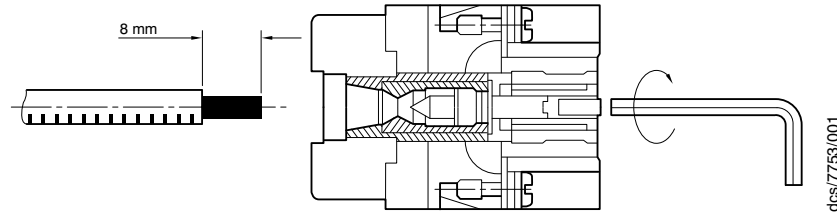

Figure 8 - Method for connecting phase wires
3. Connect the cable phase wires to the following connections on the connector block. Refer to Figure 8.
- a. Prepare the end of the 6 mm² wire as shown in Figure 8. Do not twist the wire further.
- c. Tighten the connection using a 2 mm allen key as shown in Figure 8 to a torque of 1 Nm. During tightening firmly hold the wire in position.